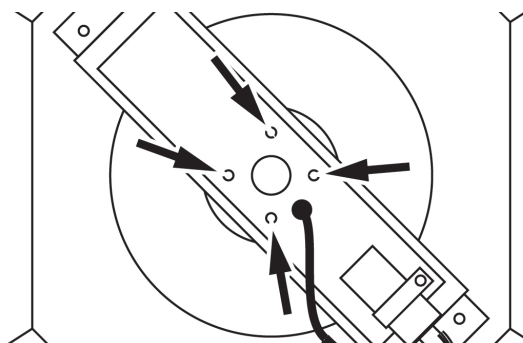

Figure 11
- Separate the motor from the motor mount by removing the four screws found in Figure 11.